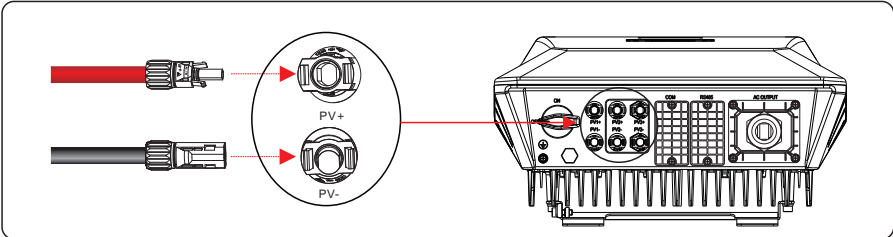

Figure 5.16 Connecting to the inverter
**Step 6** Insert the positive and negative connectors into their corresponding terminals of the inverter until a "click" sound is heard, as shown in Figure 5.16.